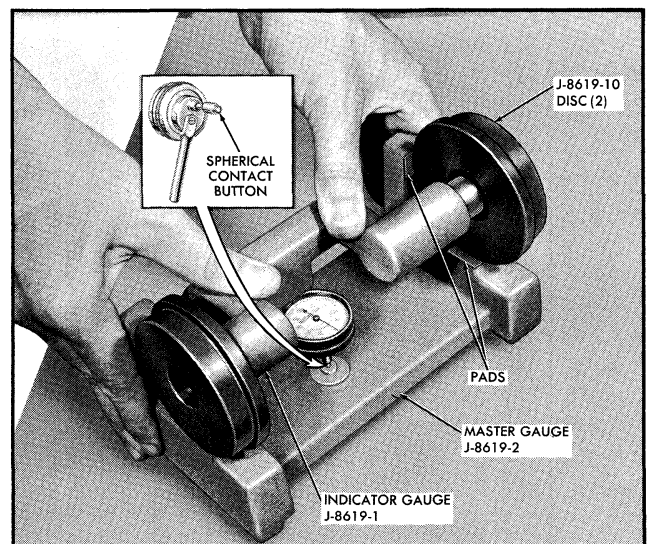

Fig. 4-35 Zeroing Pinion Depth Setting Gauge
3. Place the indicator gauge on the master gauge, Fig. 4-35 so that the spring loaded center is engaged in the centering hole, the inner, large diameter portion of each disc contacts the master gauge pads.